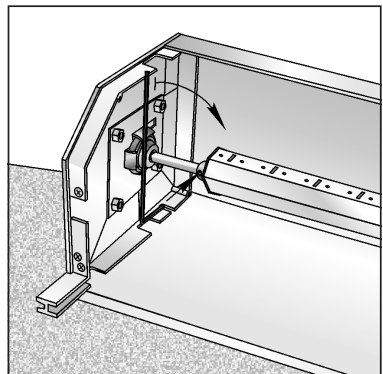

Fig. 20
- install the cap in the roll tube and fix its position by tightening the expansion screw (Fig. 20);